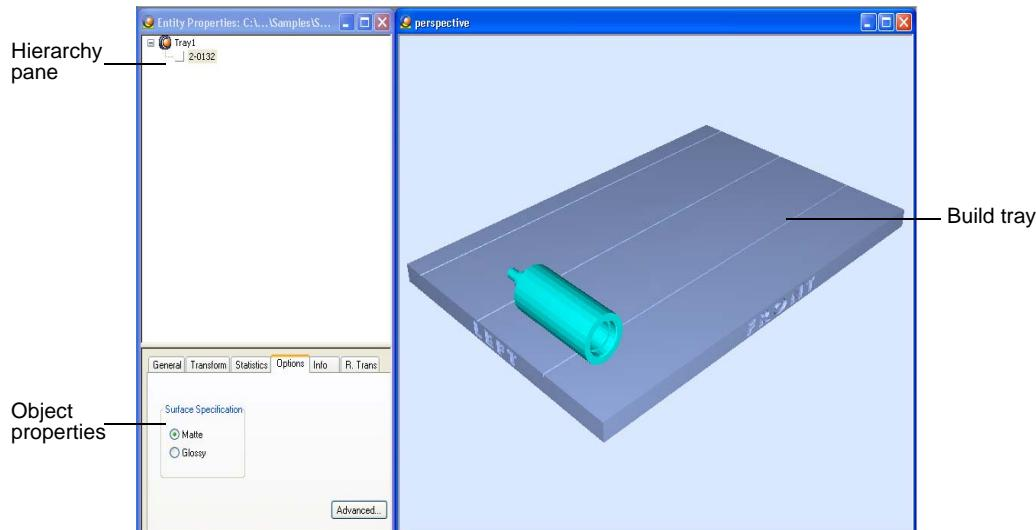

Figure 5-5: Default screen layout
The default screen layout displays the *perspective* view of the build tray and the tray hierarchy pane, which lists the elements placed on the tray (see figure 5-5 on page 5-4). You can view models from different angles by changing the screen layout.
- 2 Views** is the default screen layout, already displayed (see figure 5-5 on page 5-4).